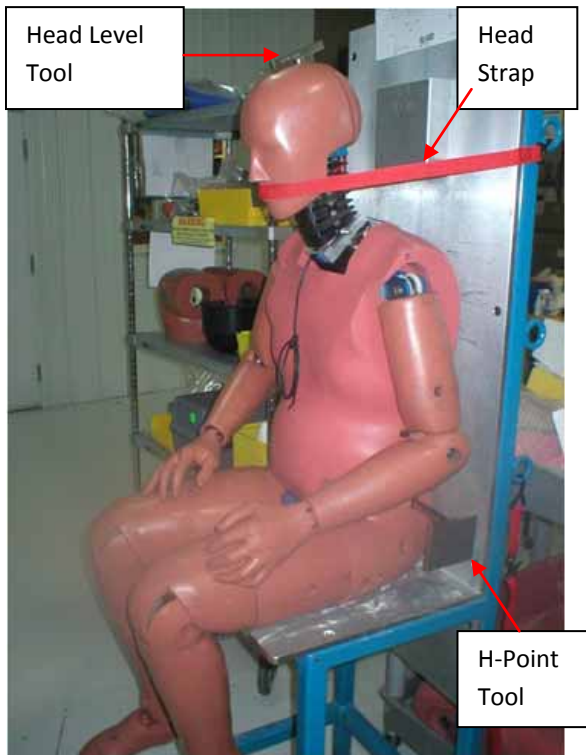

Figure 117 - BioRID II Physical Measurements
2. Position the BioRID II dummy on the measurement chair as shown in Figure 117. Position the head strap under the nose. Insert the head leveling tool on the top of the skull. Insert the H-Point tool through the pelvis into the H-Point reference square hole mounted at the base of the spine.